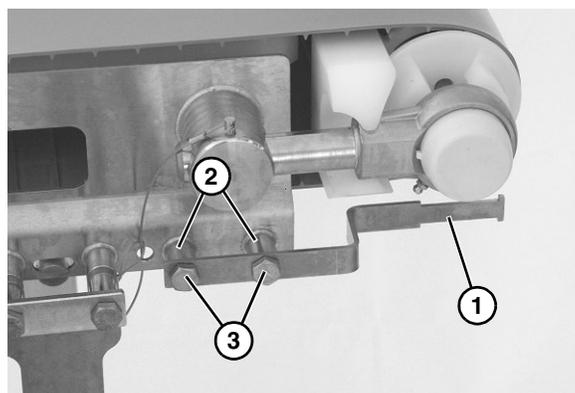

Figure 27
1. Loosely bolt limiter support plate (Figure 27, item 1) to conveyor frame stand off posts (Figure 27, item 2). Repeat on opposite side.
3. Adjust limiter to within 1/32" from belt, and tighten screws (Figure 27, item 3).